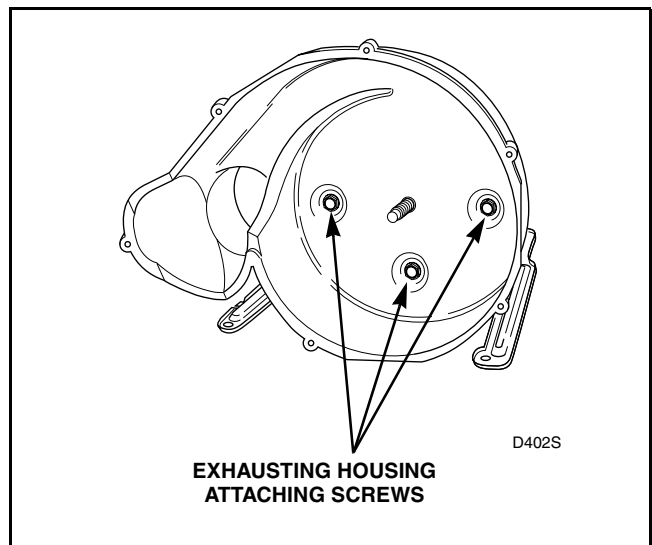

Figure 26
Refer to *Figure 26*
- Remove screws and washers holding exhaust housing to the motor mounting bracket. Refer to *Figure 26*.